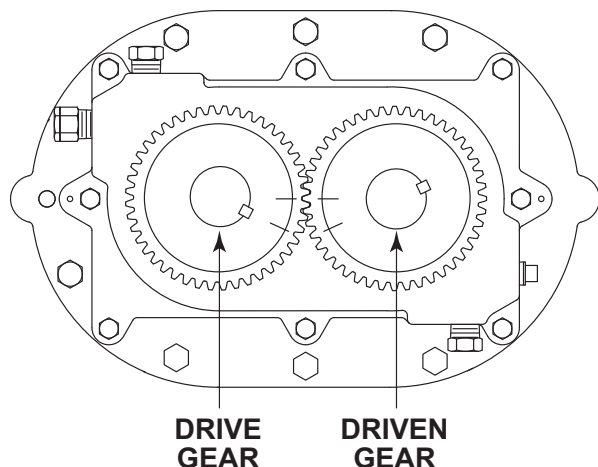

Figure 8-2 – Timing Marks Advanced 3 Teeth (Reference Marks Aligned)
5. Align the reference marks (see **Figure 8-2**).